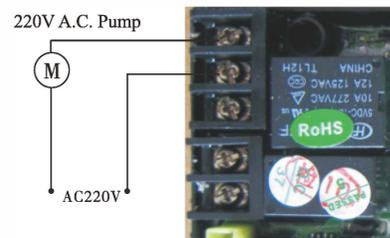
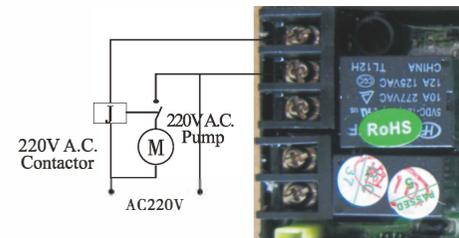

Figure 3-7 Wiring of Booster Pump on Inlet
Figure 3-8 Wiring of Booster Pump on Inlet
**Instruction:** If inlet water pressure is less than 0.15MPa, which makes backwash or brine drawing difficult, a booster pump is suggested to be installed on inlet. Control mode b-01. When system in regeneration cycle, booster pump opens, the wiring refer to Figure 3-7. If the booster pump current is bigger than 5A, system need to install an contactor, the wiring refer to Figure 3-8.